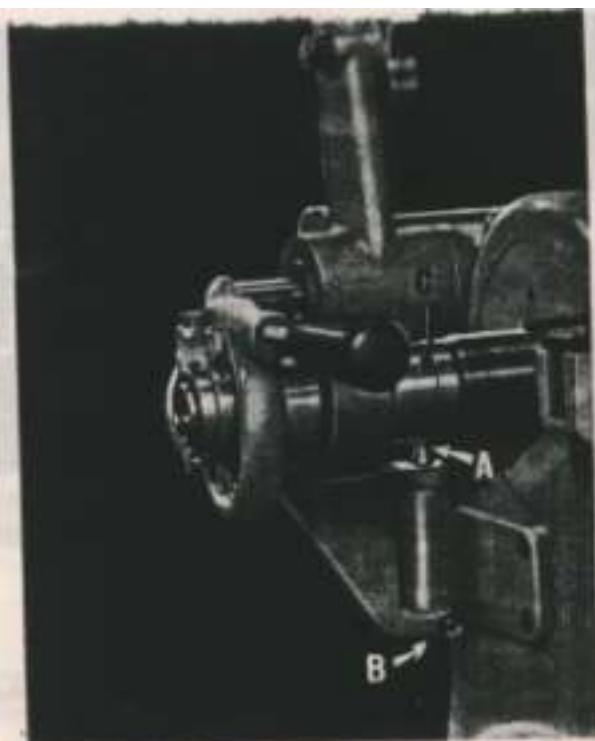
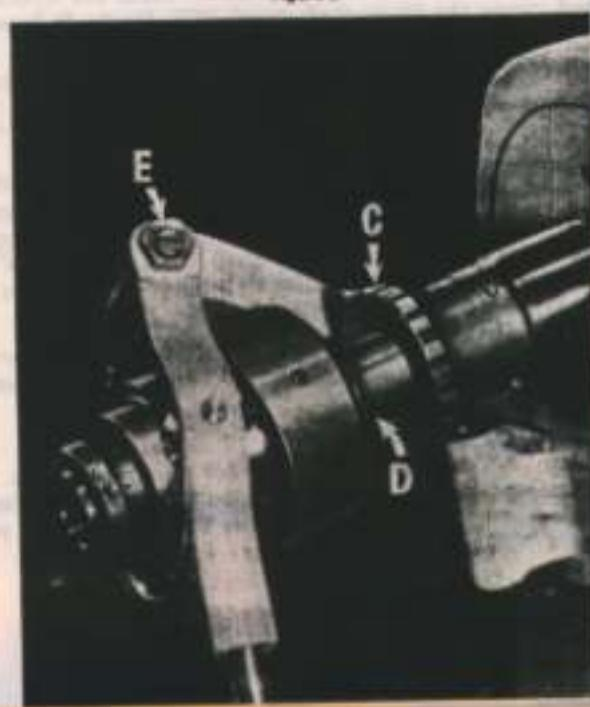

Figure 7
Figure 8
HOW TO REMOVE COLLET CLOSER—Figures 7 and 8
The collet closer should be removed from the machine when using jaw chucks, face plates, fixture plates or other nose type fixtures. Running the machine with the collet closer in place and without a collet will cause damage to the collet closer. It is also a good practice to remove the collet closer assembly occasionally and clean the inside of the headstock spindle. This is easily done by the use of a cloth and length of small diameter bar stock. To remove the collet closer remove link pin "A" Figure 7. This pin is easily removed by the use of a mallet and brass punch, striking pin at point "B". **CAUTION: DO NOT REMOVE COLLET CLOSER BY REMOVING SCREW "E", Figure 8.** This screw is adjusted properly at the factory for proper operation of collet closer. Remove only link pin "A", Figure 7. After removing pin "A" remove collet closer as shown in Figure 8. It is then necessary to remove adjusting nut "C". This is done by pulling nut straight off end of spindle. **DO NOT TURN ADJUSTING NUT—it is not threaded to spindle.**
APPLYING COLLET CLOSER—Figures 7 and 8
Apply a film of light oil on rear of headstock spindle and apply adjusting nut "C". Apply a film of light oil on bearing, section "D", Figure 8, of collet closer tube and slide closer on machine and insert link pin "A", Figure 7.
6. Move lever "D" forward to the released position and turn shell guard "C" toward operator so that latch "A" advances two notches on the adjusting nut "C", Figure 8.